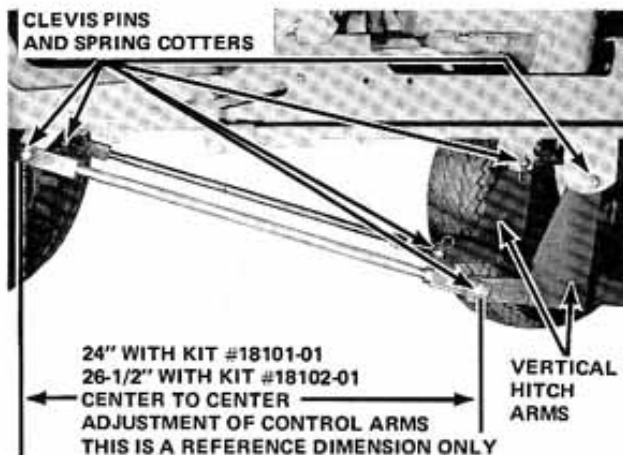

Figure 6
2. Next secure the two vertical hitch arms to the tractor implement hitch-arms with the two $5/8 \times 2-1/8$ " clevis pins and spring cotter provided, as shown in Figure 6.
5. Shut off engine and attach the two control arms to the tractor lift arms with clevis pins and spring cotters. Adjust right hand control rod so that there is 24" with kit #18101-01, 26-1/2" with kit #18102-01 between center lines of clevis mounting holes and secure to the right hand horizontal hitch arm with clevis pin and spring cotter as shown in Figure 6. Adjust left hand control rod as required and secure to left hand hitch arm with remaining clevis pin and spring cotter.